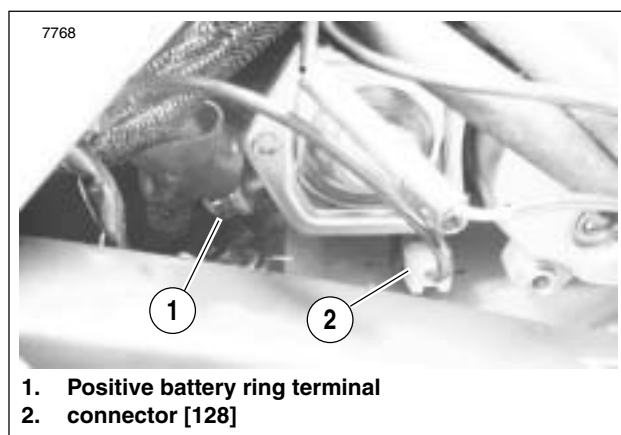

Figure 5-27. Starter Wires
2. See Figure 5-27. Connect wiring to starter.
- a. Connect solenoid wire (2).
- b. Attach positive battery cable ring terminal (1) and install nut with washer (1) (metric). Tighten to 80-100 **in-lbs** (9-11 Nm).